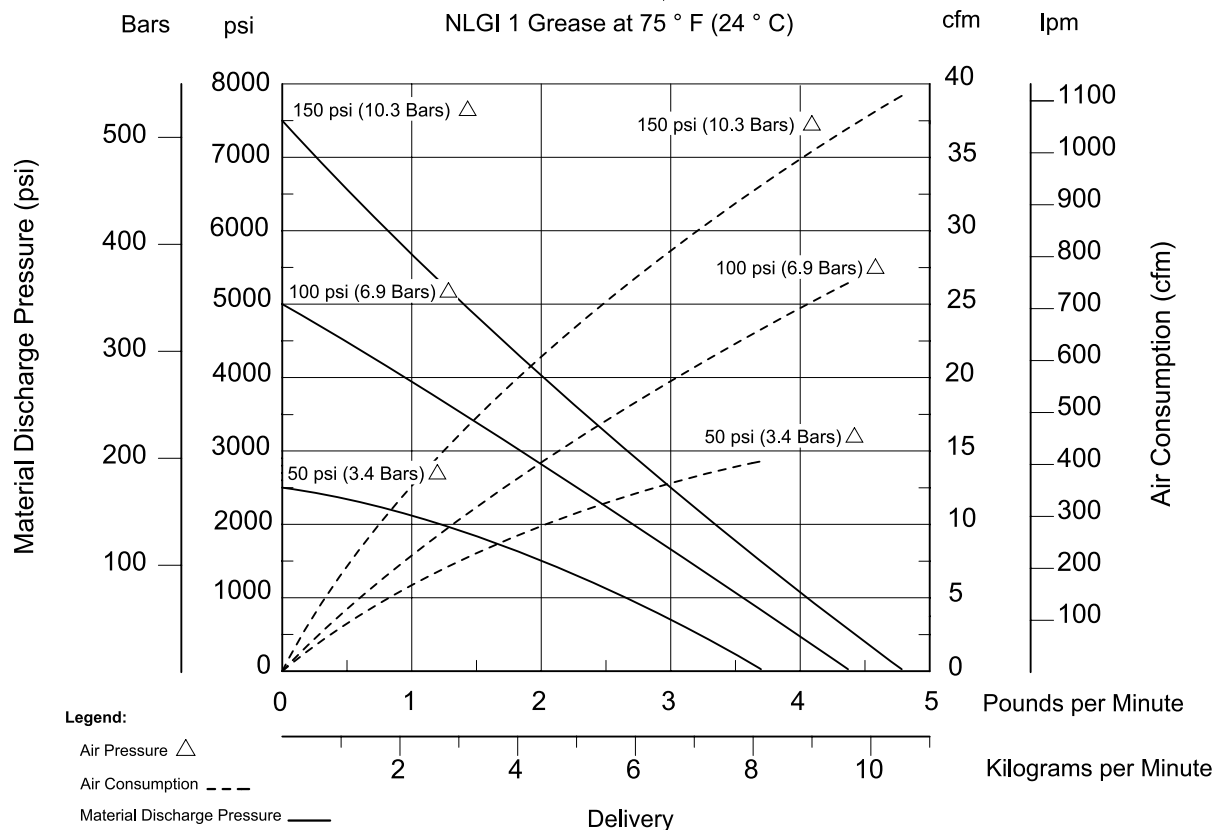

Figure 3 *Delivery versus Discharge Pressure and Air Consumption*
* For detailed information, refer to **Figure 3**